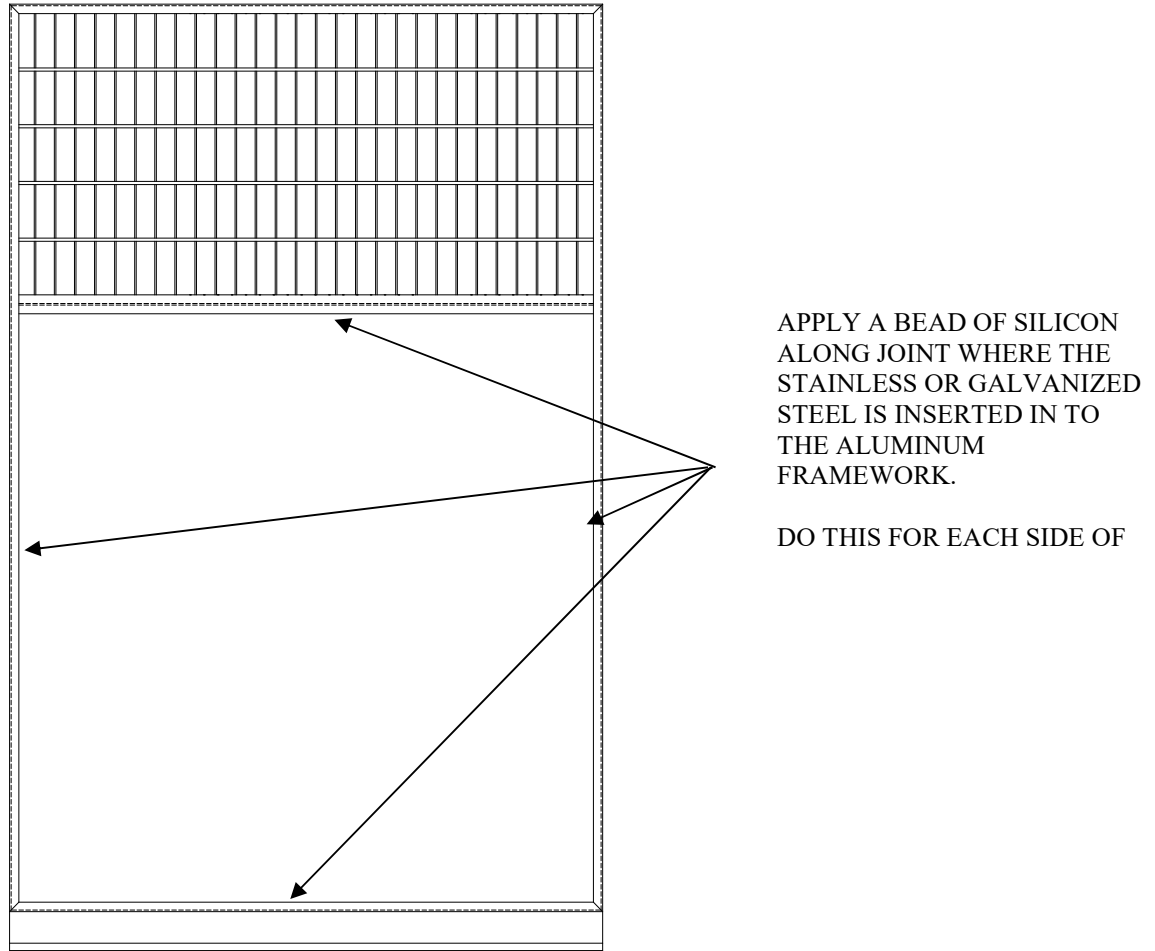

Figure 21
3. **If your system is built with Stainless Steel panels you will need to seal the perimeter of the stainless steel on both sides of the panels. Apply a thin bead and wipe away excess with denatured alcohol applied to a shop rag. Refer to Figure 21.**